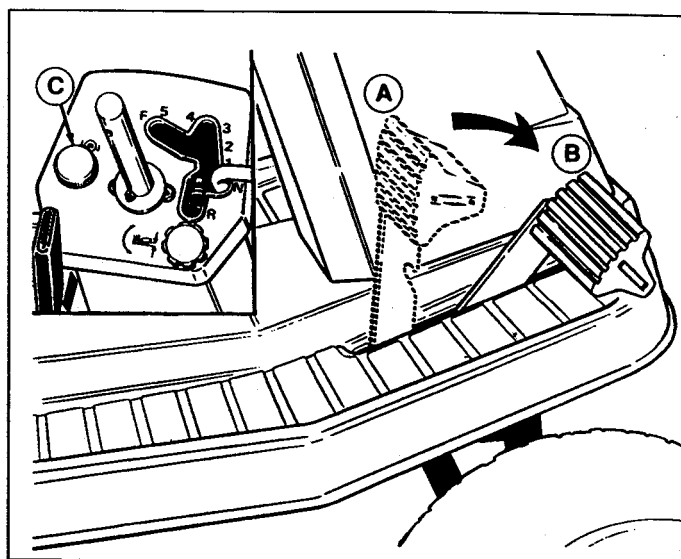
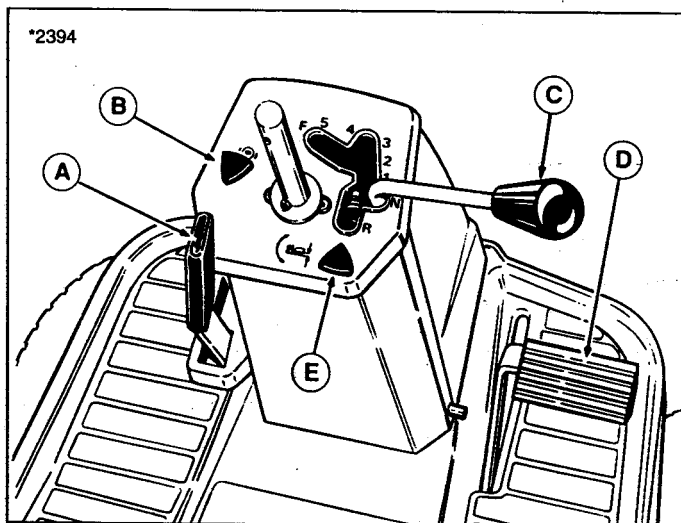

Figure 10. Clutch/Brake Pedal
Figure 11. Controls
- When traveling to or from the work site, fully raise the mower using the mower lift lever (A, figure 11). At the work site, lower mower using the lift lever.
- Use the Dial-A-Cut™ control (E, figure 11) to adjust the height of the mower. Pull back slightly on mower lift lever (A, figure 10) to relieve pressure and turn clockwise to raise mower cutting height, or counter-clockwise to lower cutting height.
1. See figure 10. Depressing the pedal from position A to B disengages the transmission drive and also returns the transmission control lever to neutral (from forward speeds). Fully depressing the pedal to position B applies the rider brake.
2. Parking brake is applied at pedal position B when parking brake control knob (C, figure 10) is pulled up with pedal fully depressed.
1. See figure 10. Depressing the clutch pedal from position A to B activates neutral start circuit, disengages the transmission drive belt and allows the gear lever to be shifted.
2. Fully depressing the clutch/brake pedal from position A to B applies the rider brake. Parking brake is applied at position B when parking brake control knob (C, figure 10) is pulled up with pedal depressed.
1. Seat yourself on the rider seat in the operating position. Set the parking brake using the clutch/brake pedal (D, figure 11) and parking brake knob (B).
2. Push down on the switch (G, figure 2) to disengage the PTO and place the ground speed control lever (C, figure 11) in neutral.
according to how far the control lever (C, figure 11) is moved in the forward or reverse position.
On gear models, ground speed is selected by depressing the clutch/brake pedal (D, figure 11) and moving the control lever (C, figure 11) to the appropriate gear selection. Most mowing is done in 3rd or 4th gear with engine set at full speed. If the terrain is rough, hilly or sloping, use first or second gear. If the grass is wet or over 3" (76mm) high, use full engine speed (with low gear) so the mower will have enough power to cut the grass.
1. If you are ready to mow, lower the mower from the transport position using lever (A, figure 11) and set the mowing height using the Dial-A-Cut™ Control (E, figure 11).
4. Release the parking brake by depressing clutch/brake pedal (D, figure 11) and pushing knob (B) down.
5. **On hydro models**, move the ground speed control lever (C, figure 11) to the desired direction and speed of travel to set the rider in motion.
1. **On hydro models**, move the ground speed control lever (C, figure 11) into the NEUTRAL position to make a gradual stop. To make a more rapid stop, depress the clutch/brake pedal (D, figure 11).
On gear models, press the clutch/brake pedal (D, figure 11) down only far enough to disengage the clutch to make a gradual stop. For a more rapid stop, press pedal down farther to apply the brake. Move the ground speed control lever to NEUTRAL before releasing the pedal.
2. Engage the parking brake by fully depressing clutch/brake pedal and pulling up on parking brake knob (B, figure 11).
2. Place the mower in the transport position (up) using the mower lift lever (A, figure 11).
3. Depress the clutch/brake pedal and place the ground speed control lever (C, figure 11) in the neutral position.